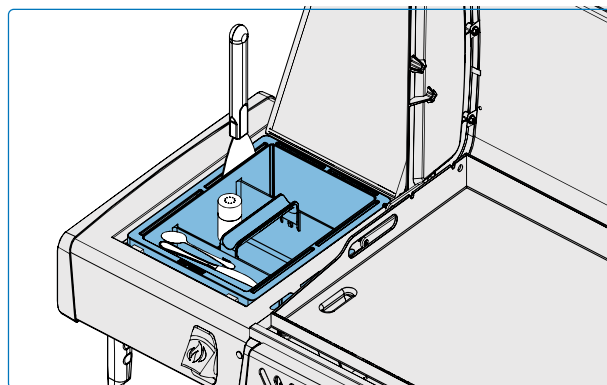

Fig. 8
Keep sauces, seasonings, and cooking utensils within reach while griddling with the integrated condiment holder in the side shelf. **(Fig. 8).**
- Set different burners to different heat levels to create specific temperature zones. Monitor the griddle surface temperature with an infrared thermometer to ensure each zone is at the desired heat level. Use direct heat (placed directly over lit burners) for foods that benefit from quick cooking, while indirect heat (placed off to the side) can be used for slower cooking or to keep food warm. **(Fig. 8)**